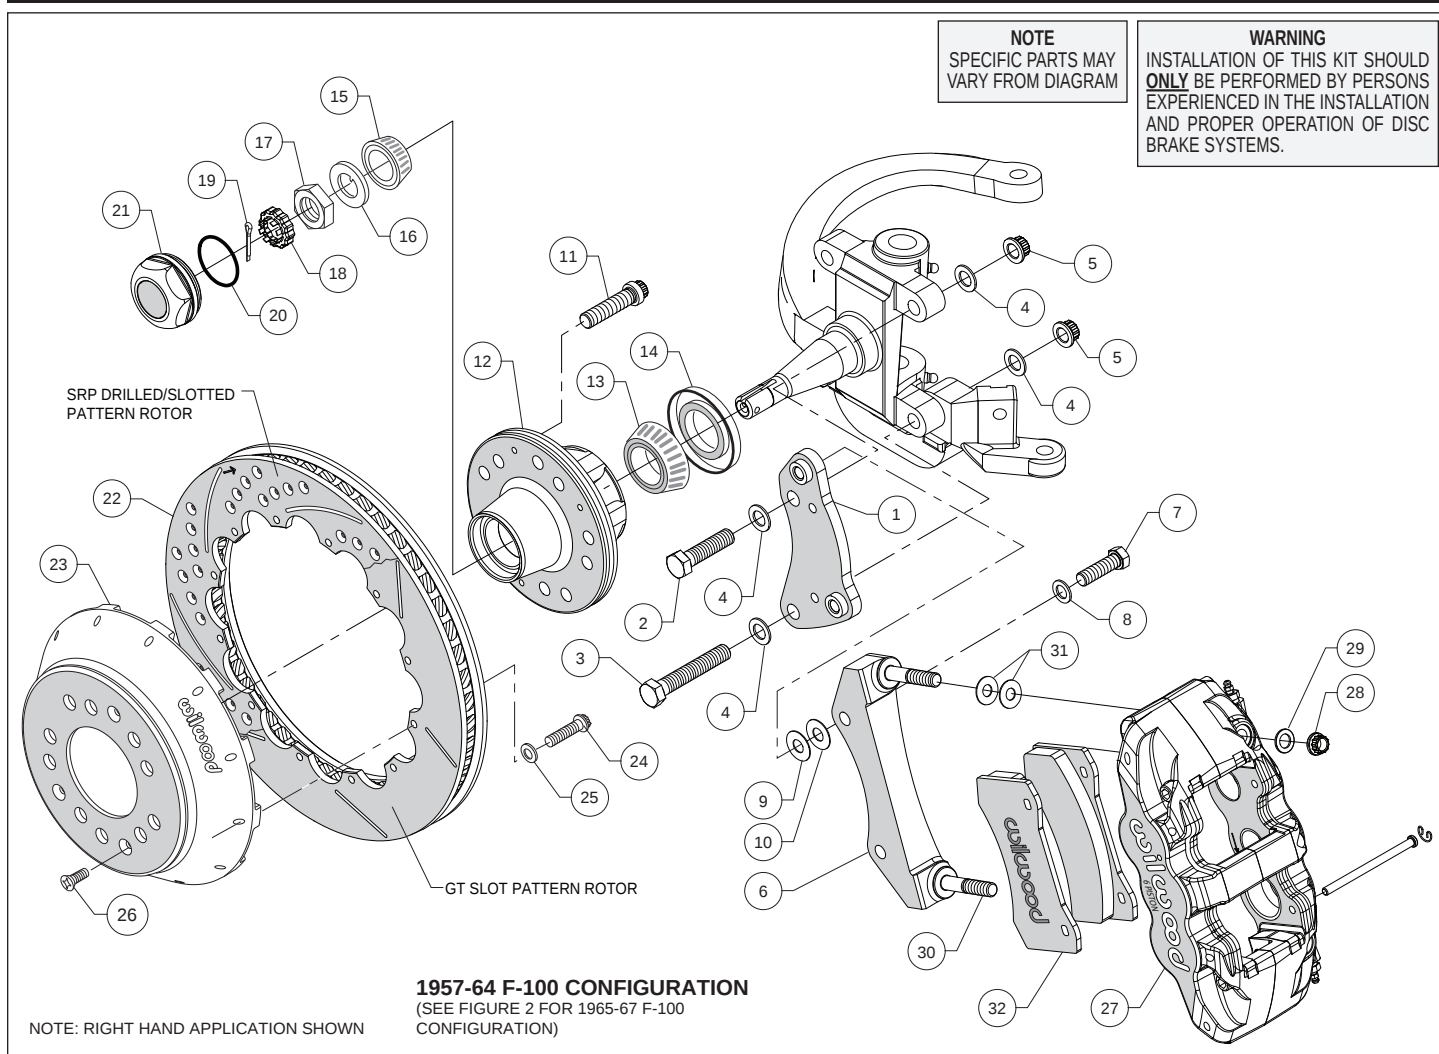
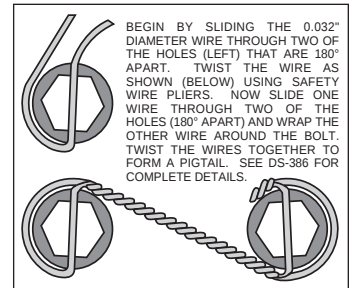
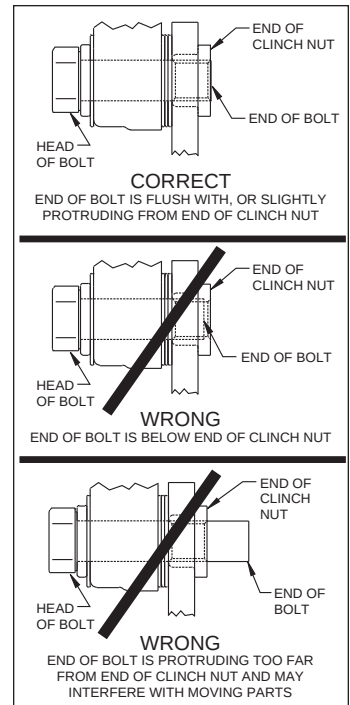

Figure 1. Typical Installation Configuration, Model Years 1957-1964
Figure 4. Safety Wire Diagram
Figure 5. Clinch Nut Engagement Diagram
Assembly Instructions (numbers in parenthesis refer to the parts list, on the preceding page and Figures 1 and 2). **CAUTION:** All mounting bolts must fully engage clinch nuts. Be sure to check that all bolts are either flush or protruding through flanged side of clinch nut after shimming, Figure 5.
- Orient the spindle bracket (1) as shown in Figure 1 or 2, and Photo 1, and install using bolts (2 and 3), washers (4) and nuts (5). Temporarily tighten the mounting bolts. Ensure that the flanged heads of the clinch nuts in the bracket are facing outboard, Photo 1. **NOTE:** The bracket must fit squarely against the mount bosses on the upright. Inspect for interference from casting irregularities, machining ridges, burrs, etc. Torque lock nuts (5) to 65 ft-lb.
- The caliper mount radial bracket (6) should initially be installed with clean, dry threads on the mounting bolts. Orient the bracket as shown in Figure 1 or 2, and Photo 2. Install onto the spindle bracket using bolts (7), and washers (8). Initially place one .030 thick shims (9) on each bolt between the radial and spindle brackets, Figure 1 or 2. Temporarily tighten the mounting bolts. Later, after the caliper alignment has been checked, the mount bolts will be secured using red *Loctite*® 271.
- Screw dust cap (21) into hub (12), Photo 8. Friction created by the o-ring (20) on the dust cap keeps it from unscrewing. **NOTE:** *The O.D. of the existing OEM spindle washer may be larger than the I.D. of the dust cap not allowing it to seat against the hub face. Therefore, use the spindle washer (16) supplied with the kit instead of the OEM washer.*
- Orient the rotor (22) and the hat (23) as shown in Figure 1 or 2 and Photo 9. Attach rotor to hat using bolts (24) and washers (25). Using an alternating sequence, apply red Loctite® 271 to the threads, and torque to 155 in-lbs. For an added measure of security, the bolts may be safety wired using standard 0.032 inch diameter stainless steel safety wire as shown in Figure 4. Refer to Wilwood's data sheet DS-386 (available at www.wilwood.com/Pdf/DataSheets/ds386.pdf) for complete safety wire installation instructions.
- NOTE:** *This kit contains distinct right and left hand calipers that must be mounted in a specific direction, as described below.* Lubricate the caliper mounting studs (30) with lightweight oil. Initially place two .030" thick shims (31) on each stud between the caliper and the bracket, as shown in Figure 1 or 2, and Photo 11. Mount the caliper (27) onto the bracket (6) using lock nuts (28) and washers (29), Figure 1 or 2. Ensure that the caliper is mounted so the largest pistons are at the rotor exit end of the caliper, in relation to the direction of rotor rotation. Temporarily tighten the lock nuts and view the rotor through the top opening of the caliper. The rotor should be centered in the caliper, Photo 12. If not, adjust by adding or subtracting shims (9 and/or 10)